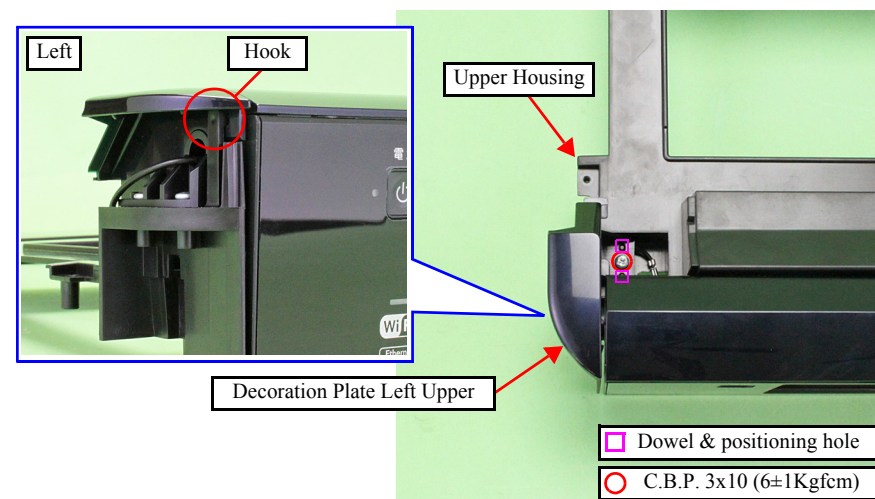

Figure 9-12. Removing the Decoration Plate Left Upper
- When installing the Decoration Plate Left Upper, align the dowels (x2) of the Upper Housing with the positioning holes (x2) of the Decoration Plate Left Upper. (See Fig. 9-12.)